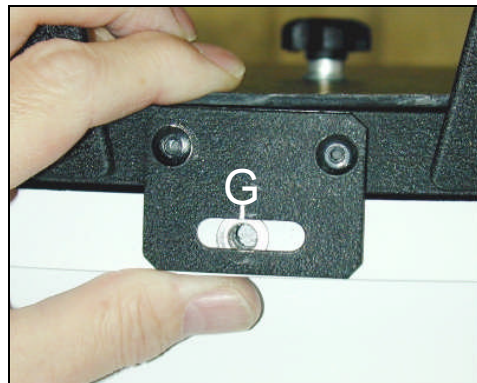

Figure 3 (top) and Figure 4 (bottom)
Next, remove the dust covers from the top of the tubs. Place the optical tube assembly on top of the tub (Figure 3) and position so that the eyelets (E) at the bottom of the optical tube assembly line up with the threaded inserts (F) in the tub. There is a small score mark (G) on the eyelet (see Figure 4). Rotate the optical tube assembly until the score mark is in the center of the threaded insert. Secure the assembly with the black T-handle thumbscrews found in the hardware bag. Make sure that the focusers are on the inside facing each other.